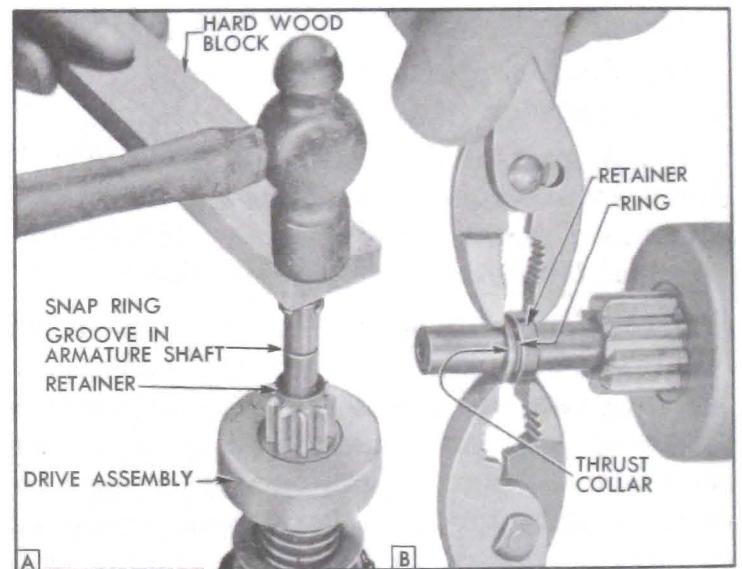

Figure 10-31—Pinion Stop Retainer and Snap Ring Installation
5. Place a new snap ring on drive end of shaft and hold it in place with a hard wood block. Strike block with hammer to force snap ring over end of shaft, then slide the ring down into groove in shaft. See figure 10-31, view A.
6. Place thrust collar on shaft with shoulder next to snap ring, and move the retainer into contact with ring. Using pliers on opposite sides of shaft squeeze retainer and thrust collar together until snap ring is forced into the retainer. See figure 10-31, view B.